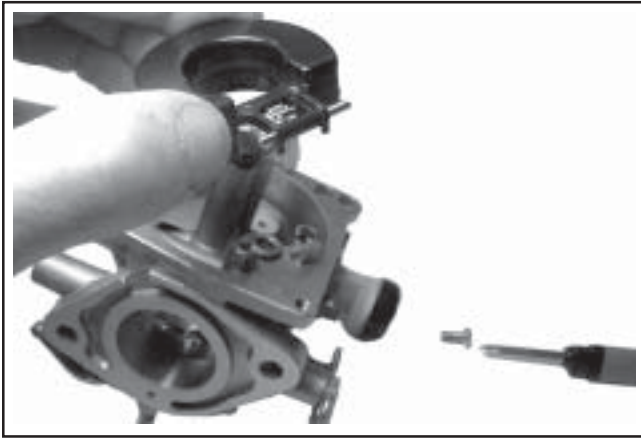

**Figure 5-17. Fuel Bowl Removed from Carburetor.**
1. Clean the exterior surfaces of dirt or foreign material before disassembling the carburetor. Unseat the clamp and disconnect the accelerator pump hose (if so equipped), from the upper fitting. Remove the four fuel bowl screws and separate the fuel bowl from the carburetor. Transfer any remaining fuel into an approved container. Remove and discard the old O-Ring(s). See Figure 5-17.